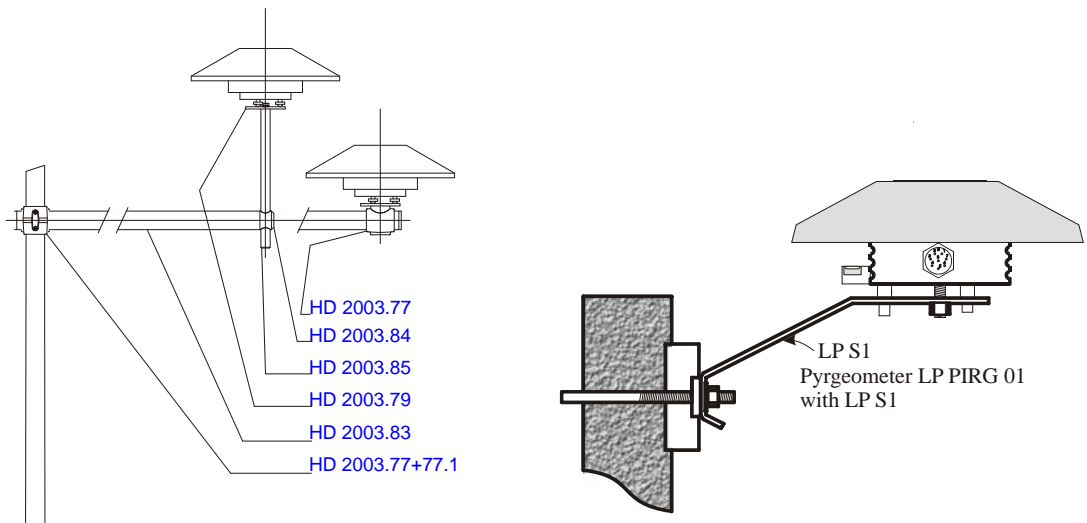

Figure 3
- The support LP S1 (figure 3), supplied upon request as an accessory, allows an easy mounting of the pyrgometer support pole. The maximum diameter of the pole to which the bracket can be secured is 50 mm. To secure the pyrgometer to the bracket, remove the screen by unscrewing the three screws, fix the pyrgometer; once the installation is complete, fix the white screen back.